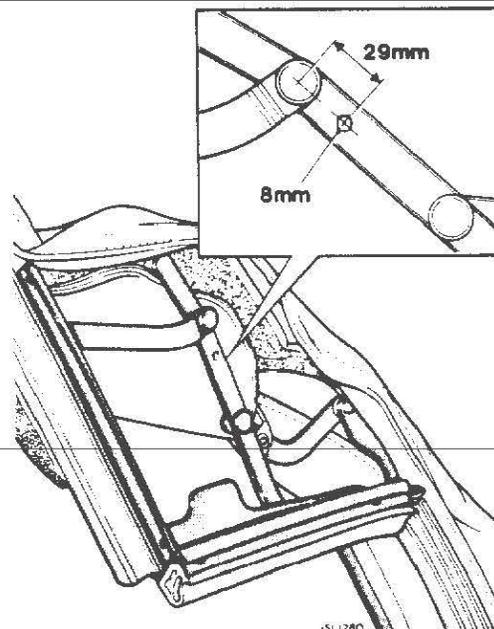

FIG 1
4. Measure from the front cantilever bar mounting bush 29 mm (Fig 1) rearward along the retraction bar.